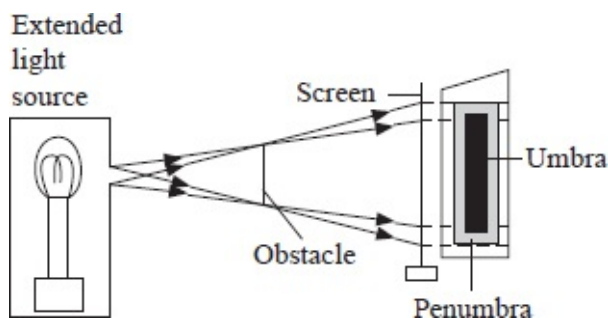

Fig. 8.6: Shadow formation by an extended light source
- Using a raybox with a large hole to act as an extended source of light, repeat experiment 8.2, as shown in figure 8.6.